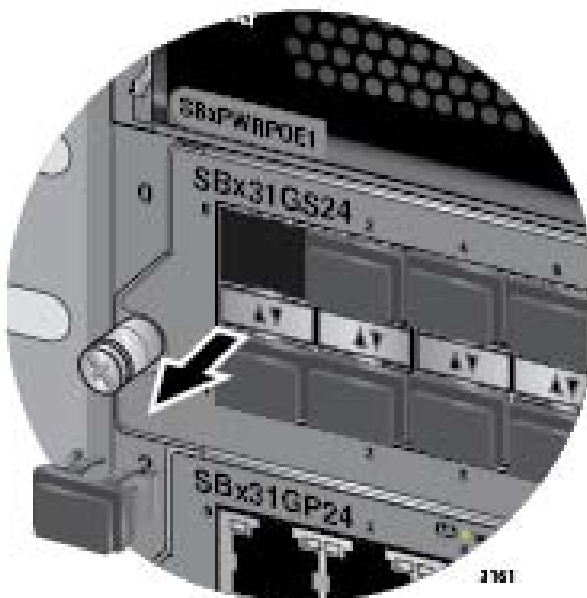

Figure 98. Removing the Dust Cover from a Transceiver Slot
2. Remove the dust cover from the SFP transceiver slot chosen for the transceiver. In Figure 98 the dust cover is removed from port 0 on the line card in transceiver slot 0.